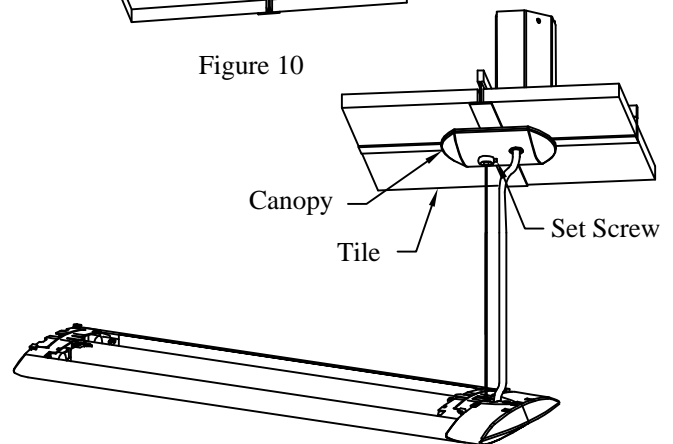

Figure 11
8. Notch (1-1/2" x 1-1/2" max) and place tile (Figure 11).
9. Secure canopy using set screw provided (Figure 11).